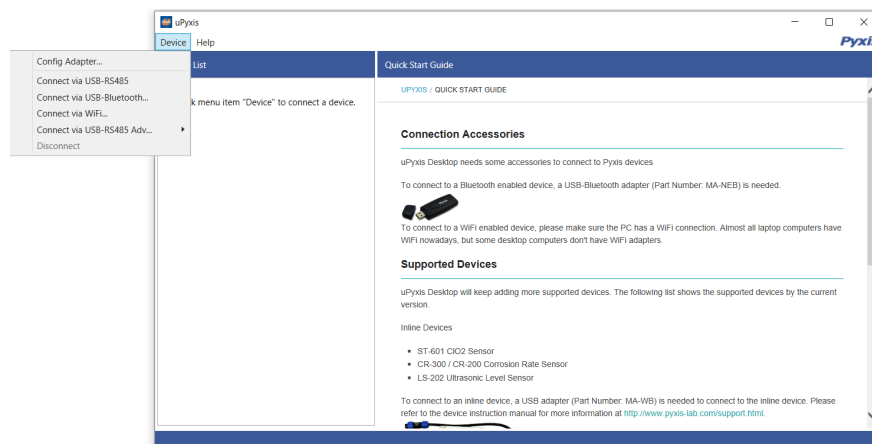

Figure 10.
3. On uPyxis® Desktop App, click Device → **Connect via USB-Bluetooth** (Figure 10).
4. If the connection is successful, the ST-774 and its Serial Number (SN) will be displayed in the left pane of the uPyxis® window.